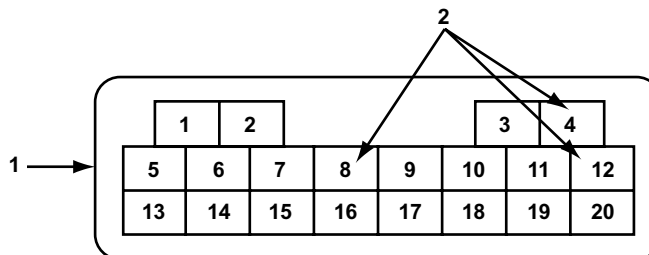

Figure 11-5 20-pin DLC—jump pins for ABS codes
- Connect pin 8 to ground (pins 4 or 12) as shown in Figure 11-5.